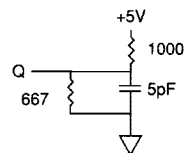

Fig. 2 OUTPUT LOAD EQUIVALENT
6. t_{HZCS}, t_{HZOE}, and t_{HZWE} are specified with CL = 5pF as in Fig. 2. Transition is measured ± 500mV from steady state voltage.